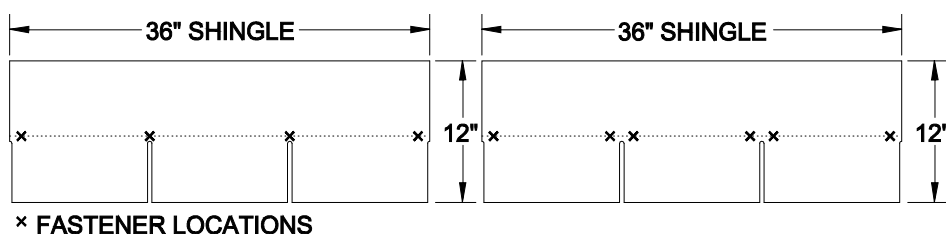

Figure 27. Shingle fastener locations for Wind Zone I (left) and Wind Zones II and III (right).
2. **Install shingles.** If shingles have been left off at the ridge line for site installation, install them now using 12 ga x 1-1/4" long, 3/8" diameter head roof nails or 16 ga 1" crown x 1" length staples. For Wind Zone I, fasten at 5/8 inch above each tab cutout slot and one at each end of the shingle one inch in from the edge (four fasteners for a three-tab shingle) (**Figure 27**). For Wind Zones II and III, use two fasteners 5/8 inch above and on either side of the tab slots and one at each end of the shingle one inch in from the edge (six fasteners for a three-tab shingle). Do not fasten through the shingle tar line.